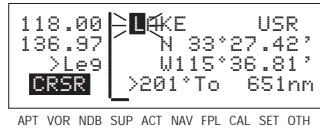

Figure 4-79
1. From any supplemental waypoint (SUP) page, turn on the cursor (CURSR). It will flash over the first character in the waypoint identifier field (figure 4-79).